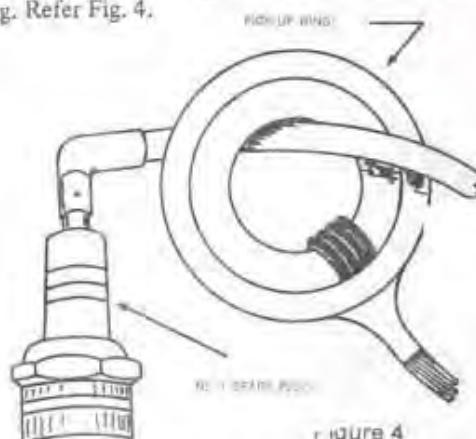

Figure 4
REFERENCE FIG. 4
6. Remove the H.T. lead from No. 1 spark plug, thread it through the ring attached to the end of No. 1 plug lead and replace the lead on the spark plug. Refer Fig. 4.